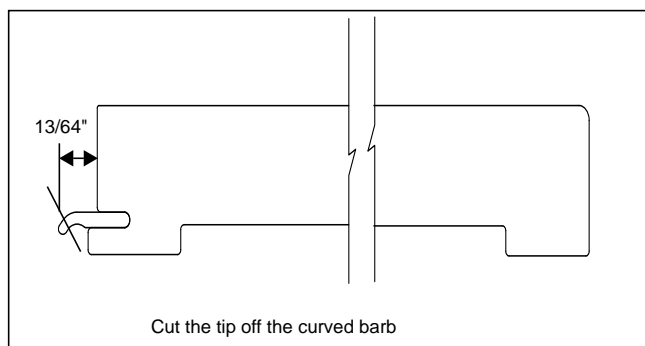

Figure 1
- Use a router or table saw to trim curved barb from new jamb extension. See figure 1.